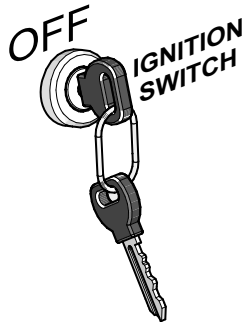

Figure 17. Ignition Switch (OFF)
1. Place the ignition switch key (Figure 17) on the **OFF** position.